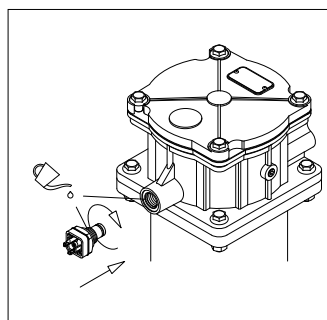

fig. 16
- (Fig. 16) Lubricate with the operating fluid the thread and the O-ring of the indicator body, then screw the indicator body in referring to the tightening torque table in paragraph 3